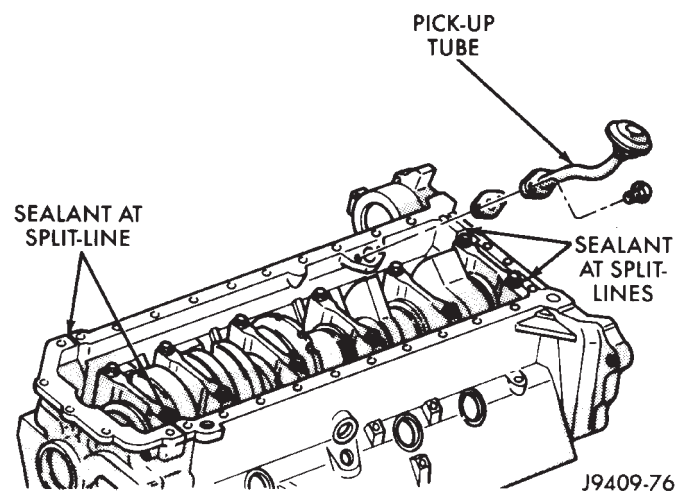
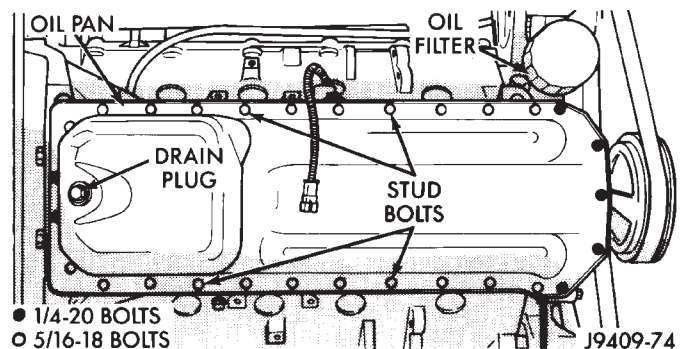

Fig. 44 Oil Pick-Up Tube
Fig. 46 Oil Pan Bolt Location
- (1) Disconnect the negative cable from the battery.
- (2) Raise vehicle.
- (3) Drain engine oil.
- (4) Remove left engine to transmission strut.
- (5) Remove oil pan and one-piece gasket. The engine may have to be raised slightly on 2WD vehicles.
- (6) Remove the oil pick-up tube assembly (Fig. 44). Discard the gasket.
(2) Install the dowels in the cylinder block at the four corners.
(3) Apply small amount of Mopar® Silicone Rubber Adhesive Sealant, or equivalent at the split lines. The split lines are between the cylinder block, the timing chain cover and the rear crankshaft seal assembly (Fig. 44). **After the sealant is applied you have 3 minutes to install the gasket and oil pan.**
(4) Slide the one-piece gasket over the dowels and onto the block.
(5) Position the oil pan over the dowels and onto the gasket. The engine may have to be slightly raised on 2WD vehicles.
(6) Install the oil pan bolts (Fig. 46). Tighten the 1/4 inch bolts to 11 N·m (96 in. lbs.) torque. Tighten the stud bolts to 16 N·m (144 in. lbs.) torque. Tighten the 5/16 inch bolts to 16 N·m (144 in. lbs.) torque.